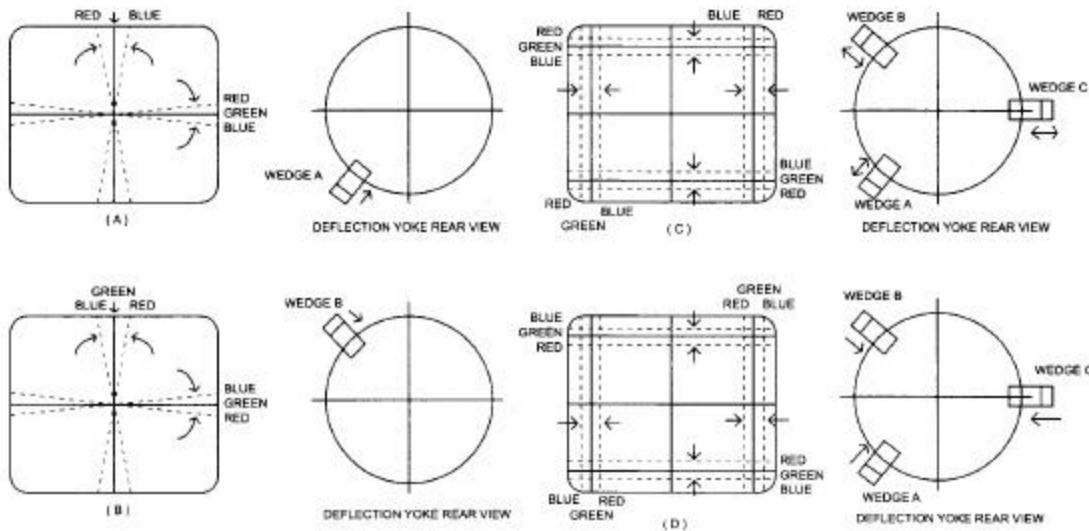

FIG. 5
DYNAMIC CONVERGENCE ADJUSTMENT (Refer to Figure 5)
3. For the misconvergence shown in Figure 5 (A), tilt the deflection yoke down and insert wedge A between deflection yoke and CRT.
4. For the misconvergence shown in Figure 5 (B), tilt the deflection yoke up and insert wedge B between deflection yoke and CRT.
5. For the misconvergence shown in Figure 5 (C), tilt left side of the deflection yoke and slightly insert wedge C between deflection yoke and CRT. Then, deeply insert wedges A and B between deflection yoke and CRT.
6. For the misconvergence shown in Figure 5 (D), tilt right side of the deflection yoke and deeply insert wedge C between deflection yoke and CRT. Then, slightly insert and/or extract wedges A and B between deflection yoke and CRT.